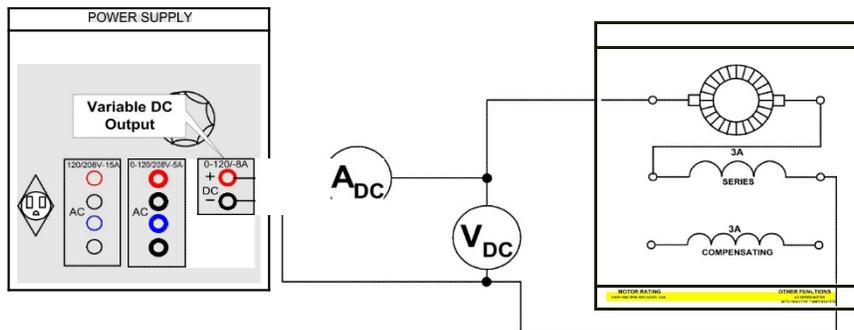

FIGURE 8.23
- Step 25: Reconnect your circuit for DC operation as shown in Figure 8.23.
Step 30:a) Reconnect your circuit for DC operation as shown in Figure 8.23.